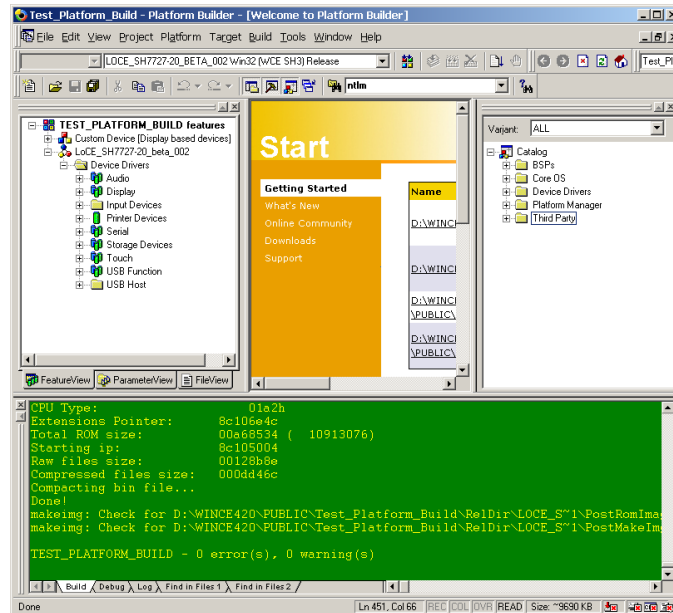

Figure 36: The Platform Build is Complete
36. When the Platform has completed the build phase, your screen will look as it does in Figure 36 (below).